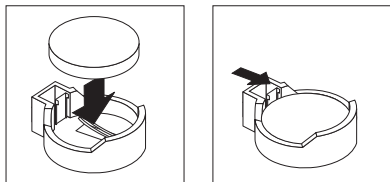

Figure 24. Installing the battery
- b. Press the battery down into the socket (see Figure 24) until it clicks into place. Make sure that the battery clip holds the battery securely.